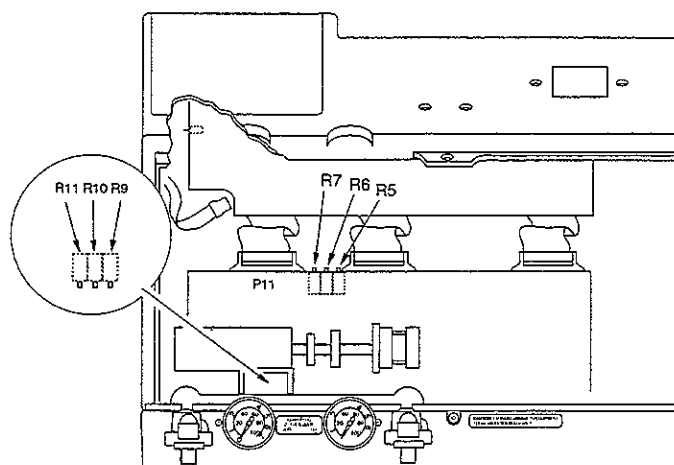

**Figure 5-7**
1. Connect an external gas source and gauge to the ventilator as shown in Figure 5-7.